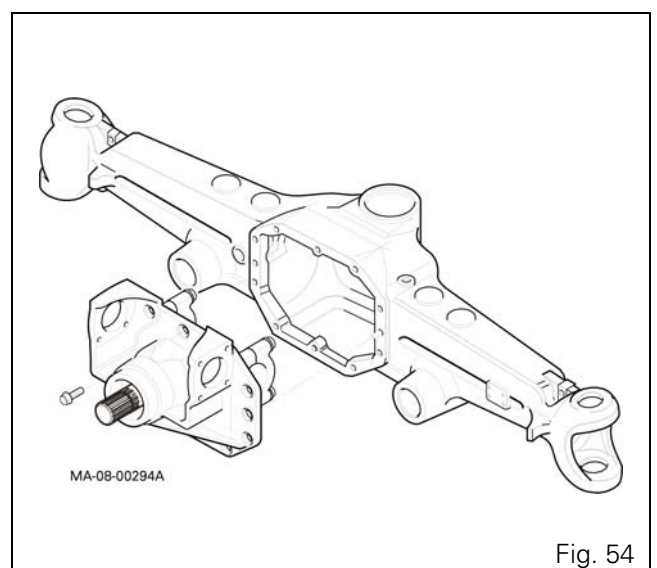

Fig. 54
- for fixed front axles: Fig. 54.